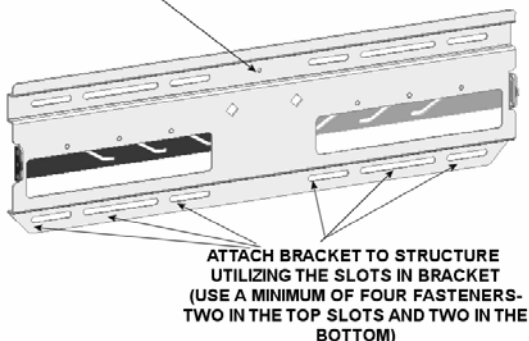
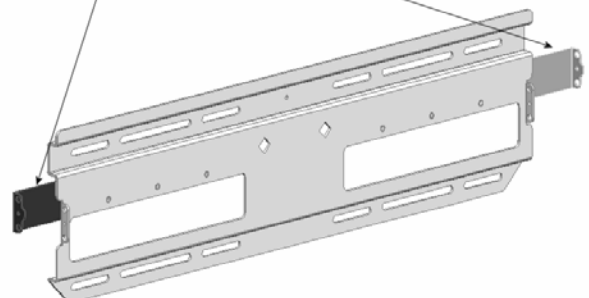

Figure 9. Wall Plate Installation
Figure 10. Slide Latches Outward
2. Using a small nail or screw (not provided) in the center hole, lightly hold wall plate at the mounting location (see Figure 9).
3. Level the wall plate (10) and drill pilot holes for anchoring the wall plate. If drilling into wood studs, us a 15/64" drill bit.
4. Using four 5/16" lag bolts (240) and 5/16" washers (250), install the wall plate on the wall.
5. Slide the latches to the outside (see Figure 10).